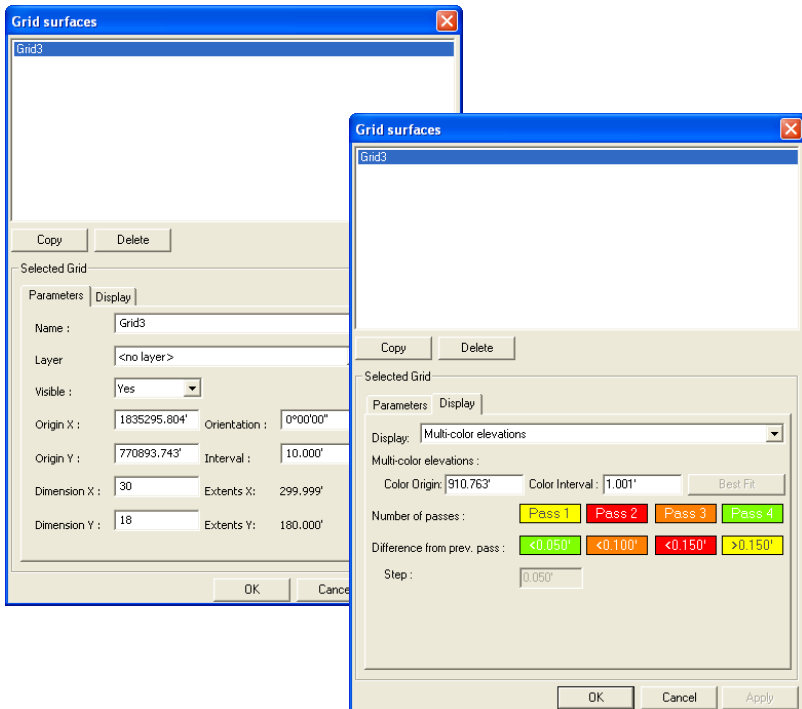

Figure 8-6. Grid Surfaces
To view the 3D Project and 3D Grid grid surfaces, click **Grid ▶ Grid surfaces** or **Grid ▶ Grid properties**. The *Grid surfaces* dialog box displays parameter and display information about the selected grid surface (Figure 8-6 on page 8-7).
1. On the **Grid surfaces** dialog box, select the grid surface to edit (Figure 8-6).